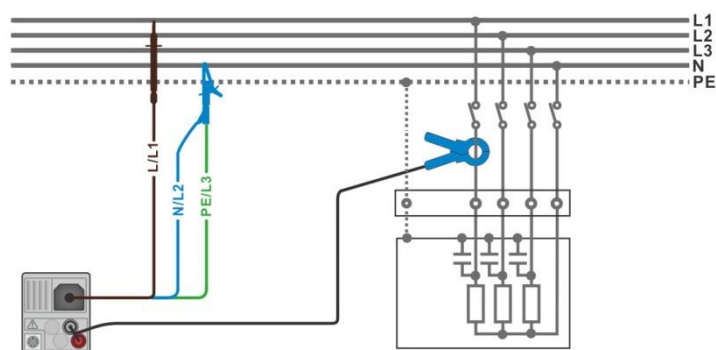

Figure 7.80: Harmonics measurement
- Connect the voltage test leads and current clamp to the item to be tested, see **Figure 7.80**.